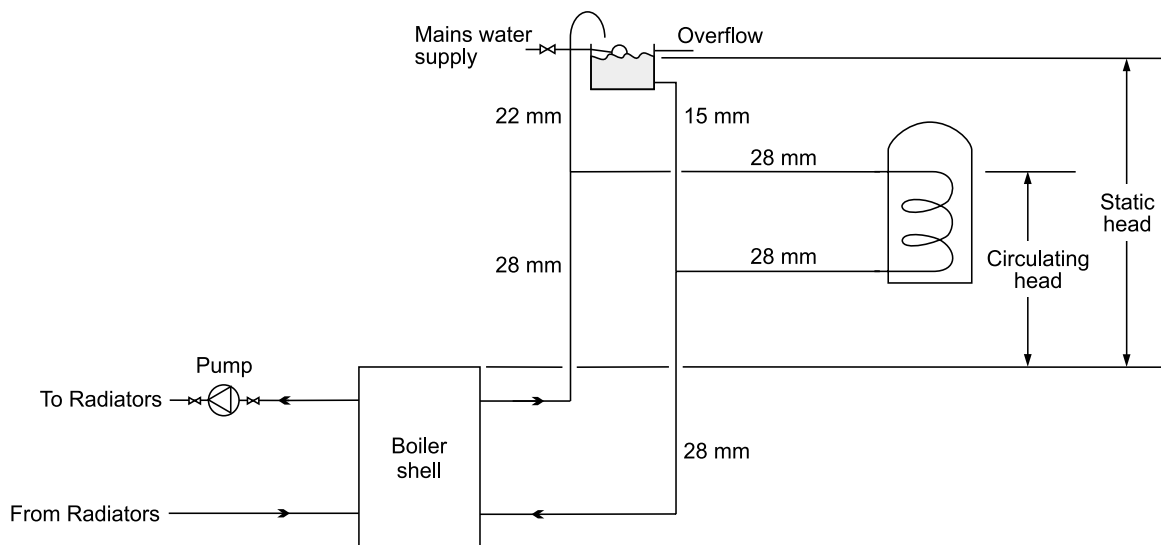

Fig. 12 - Gravity domestic hot water system
See Figs. 12, 13, 14 and 15
3.13.1 Gravity domestic hot water - (See Fig. 12)